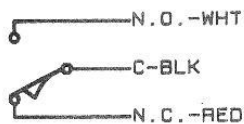

FIG. 7
The DSM option provides a signal to indicate whether the door is open or closed. The lock mounting instructions should be followed closely to ensure reliable performance of this option. The DSM provides a signal via a set of form "C" dry contacts rated 100 mA resistive at 24VDC. These contacts are accessed by the RED, BLACK and WHITE wires. The contacts are labeled in the door opened condition which are WHITE, normally open (N.O.), BLACK, common (C) and RED, normally closed (N.C.). Closing the door causes the contacts across the BLACK and WHITE wires to close and the BLACK and RED wires to open. See Figures 7, 8 and 9 below.